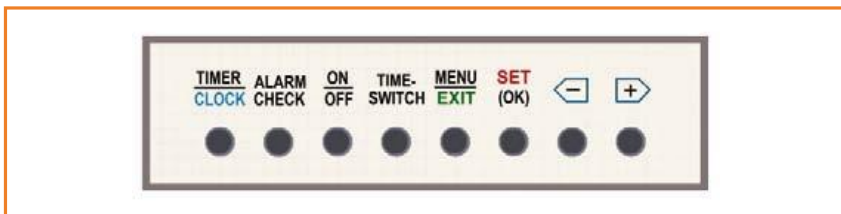

Figure 1.
**Figure 1** shows the standard layout of push-buttons along the top panel of the clock. The SNOOZE/CANCEL button is also located on the top panel. The buttons, LED display and encoder switch (knob) comprise the local user interface. Most clock operations and settings are accessible via the local user interface. Some of the more esoteric user options are adjustable only via the USB link.